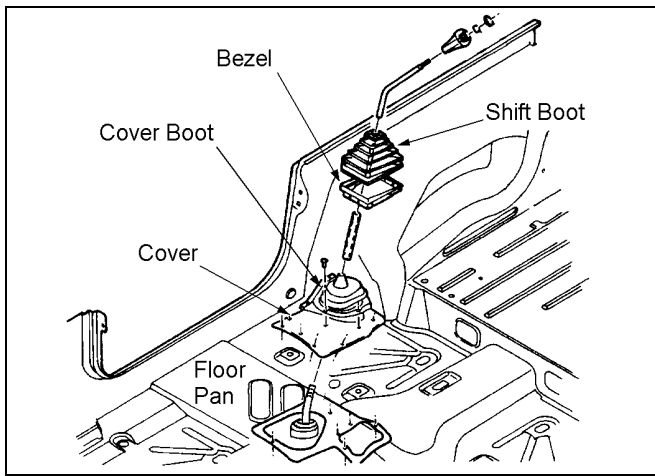

Figure 21
- 2) ☒ Pry up the shift boot and bezel from the floor console. See figure 21.